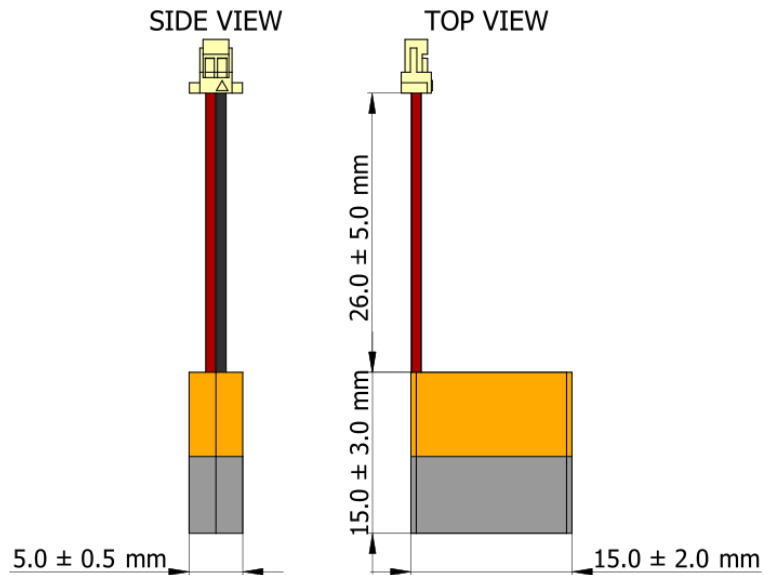

Figure 1: 70mAh Battery Drawing & Dimensions
1.1 Outline Dimensions: See attached drawing, Figure 1, for dimensions.